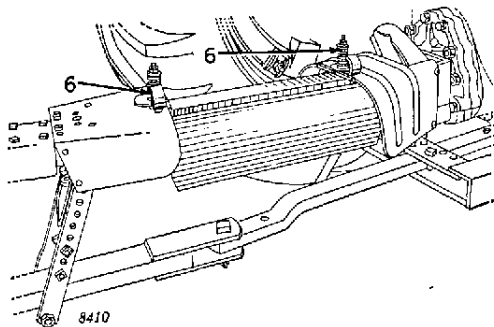

Figure 13
6. (Figure 13) Attach universal joint and pipe connections shield to take-off shaft shield on tractor and to shield on power shaft front bearing as shown.
- M. **Implement manufacturers must furnish shielding for the part of power line that he supplies.** (See "6," Figure 13.)